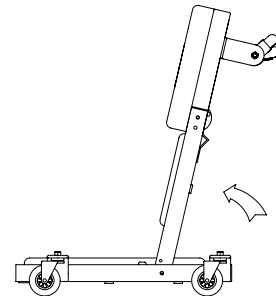

Figure 7 - Low seat configuration
1. Locate and unlock spring loaded Locking Pin for middle section by pulling out until disengaged. Then rotate Head Frame and Middle Frame upward as shown in Fig. 7 until the Locking Pin can engage hole in Creeper Seat locking plate (ensure Lock Pin is fully engaged). This is the low seat configuration.